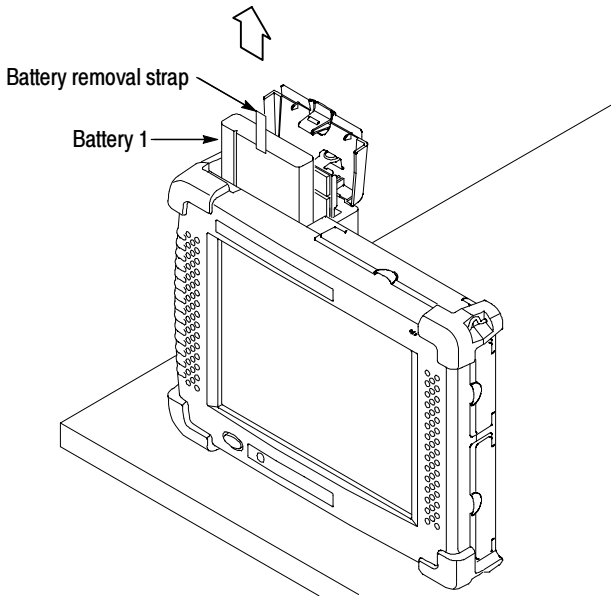

Figure 1-5: Removing a battery
7. Pull up on the battery removal strap to remove the battery. See Figure 1-5.